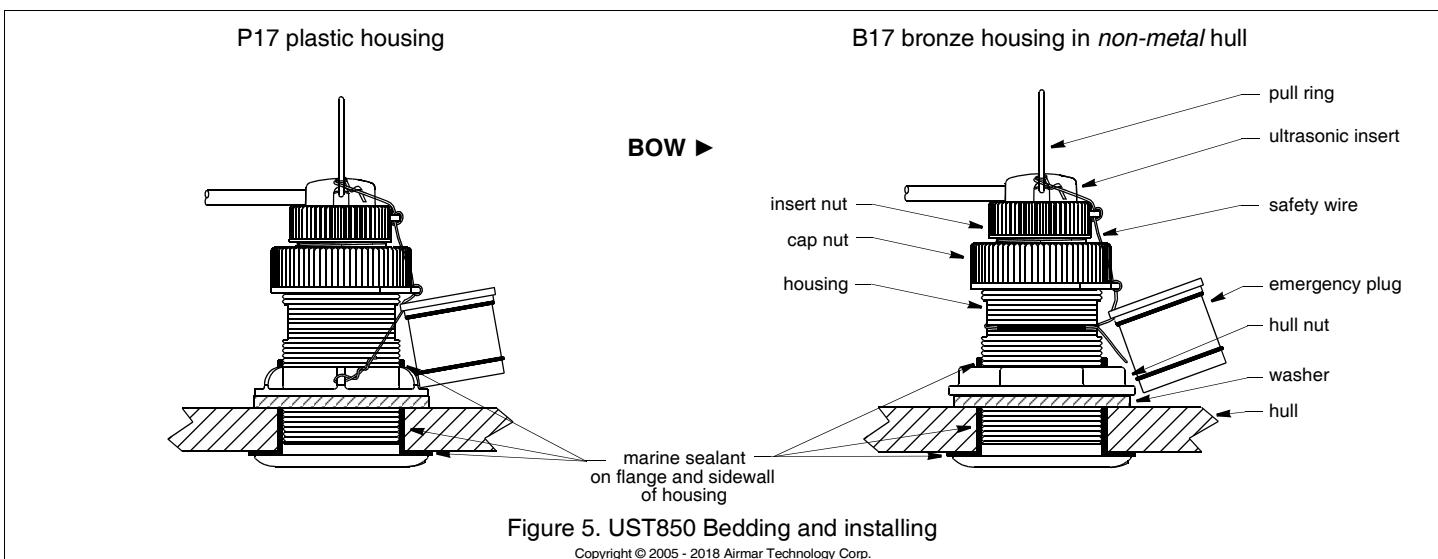

Figure 5. UST850 Bedding and installing
#### UST850 (Figure 5)
2. Remove the ultrasonic insert from the housing by removing the safety wire from the pull ring and the *insert* nut (Figure 5).
5. Reattach the safety wire to prevent the blanking plug from backing out in the unlikely event that the *insert*/cap nut fails or is screwed on incorrectly (Figure 5).
1. Remove the *short emergency plug* from the safety wire (Figure 5).
5. Secure the *short emergency plug* with the *cap* nut. **Hand tighten** only. Do not over tighten. Reattach the safety wire (Figure 5).
10. Attach the safety wire to the *short emergency plug*, the *cap nut*, the *insert nut*, and the pull ring to prevent the ultrasonic insert/blanking plug from backing out in the unlikely event that the *insert nut* and/or *cap nut* fails or is screwed on incorrectly (Figure 5).